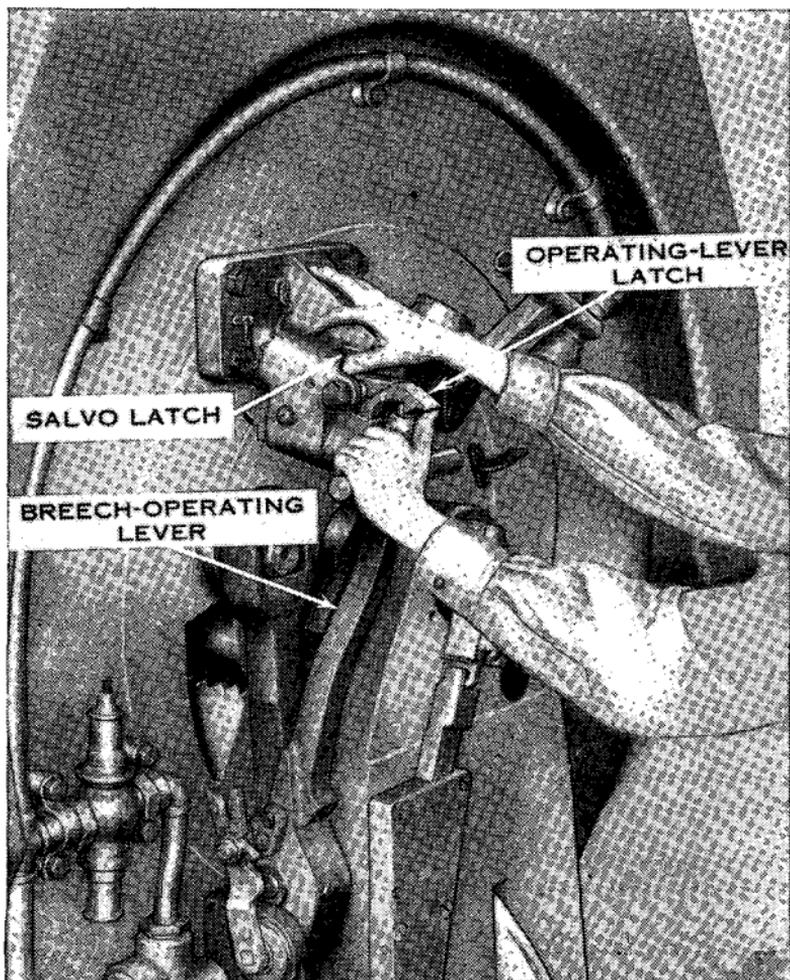

Figure 9. Unlatching the breech-operating lever.
22. OPERATION OF BREECH. a. *To open the breech*, No. 2, with the thumb of one hand, presses the salvo latch inward to disengage the operating-lever latch. He grasps the breech-operating lever handle with the other hand, using his thumb to move the operating-lever latch upward to disengage the operating lever (fig. 9). He pulls the breech-operating lever downward, causing the breechblock to rotate, thus disengaging the threads of the breechblock from their seat in the gun breech. No. 1 grasps the breechblock handle and